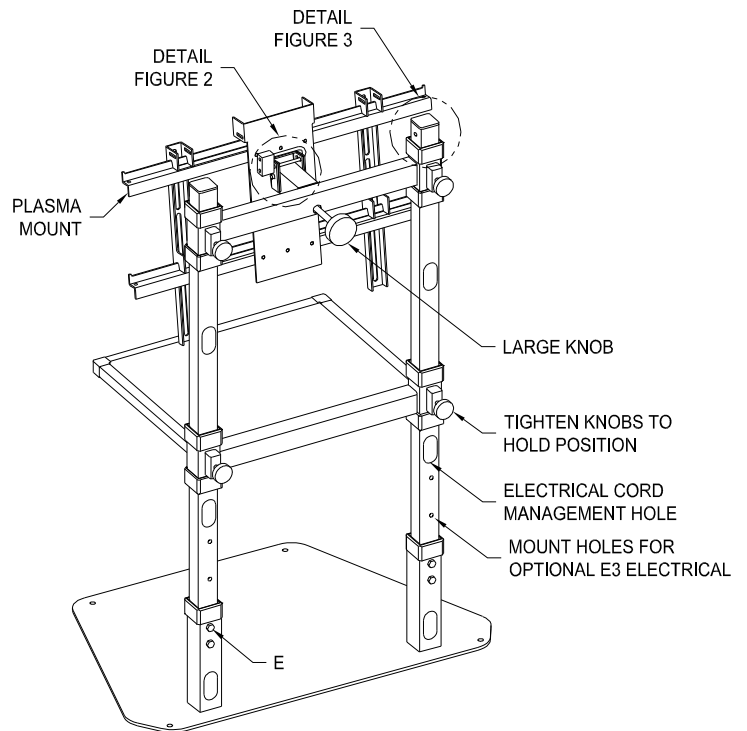

Figure 1
2. Insert two Columns into the Base and install the fasteners shown. See Figure 1. Leave loose at this time.